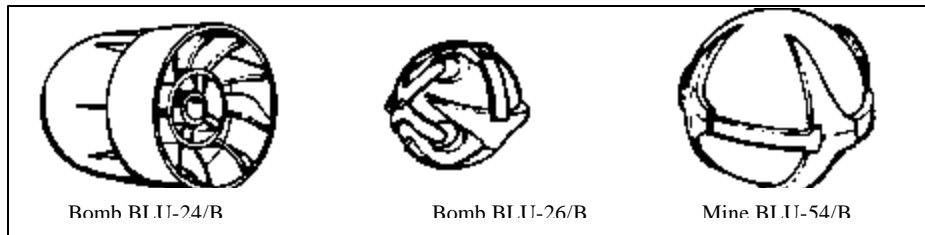
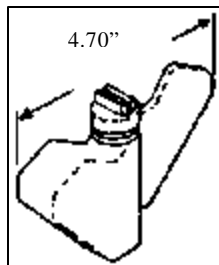

Figure 32. APERS bomblets.
Figure 33. APERS pressure-activated submunition.
- (3) The major difference between scatterable mines and placed mines is that the scatterable mines land on the surface and can be seen. Placed mines, discussed in a later section may be hidden or buried under the ground and usually cannot be seen.
- (4) The ball-type submunitions shown in Figure 32 are APERS. They are very small and are delivered on known concentrations of enemy personnel. APERS submunitions have small fragments that are designed to inflict casualties. They range from 2 to 4 inches and are spherical munitions. The submunition shown in Figure 33 is scattered across an area. Like a land mine, it will not blow up until pressure is put on it.